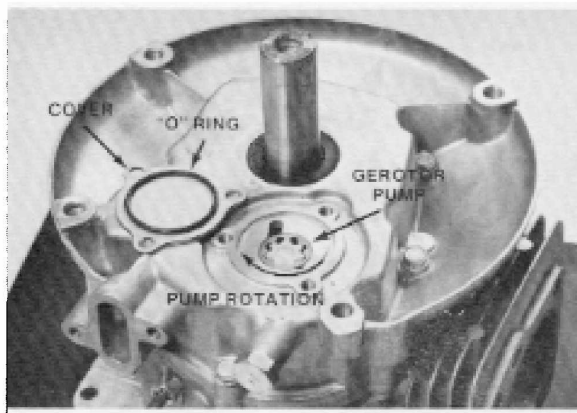

Figure 4-53
2. Lubricate and install the outer gear of the gerotor set. Put the gears back into the engine the same way they came out. This will maintain any wear pattern that may have developed in the gear set. See Fig. 4-53.